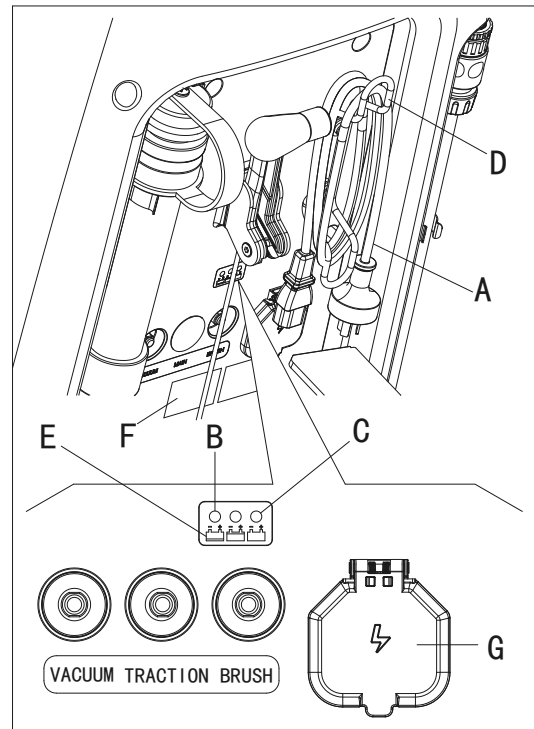

Figure 17
7. Connect the battery charger cable (A, Figure. 17) to the electrical mains (G) (the electrical mains voltage and frequency must be compatible with the battery charger values shown on the machine serial number plate (F)). When the battery charger is connected to the electrical mains, all machine functions are automatically cut off. If the red warning light (B) on the battery charger control panel stays on, the battery charger is charging the batteries.
8. When the green warning light (C) turns on, the battery charging is completed.
9. When the battery charging is completed, disconnect the battery charger cable (A) from the electrical mains (G) and wind it round its housing (D).
For further information about the operation of the battery charger (E, Figure. 17), see the relevant Manual.